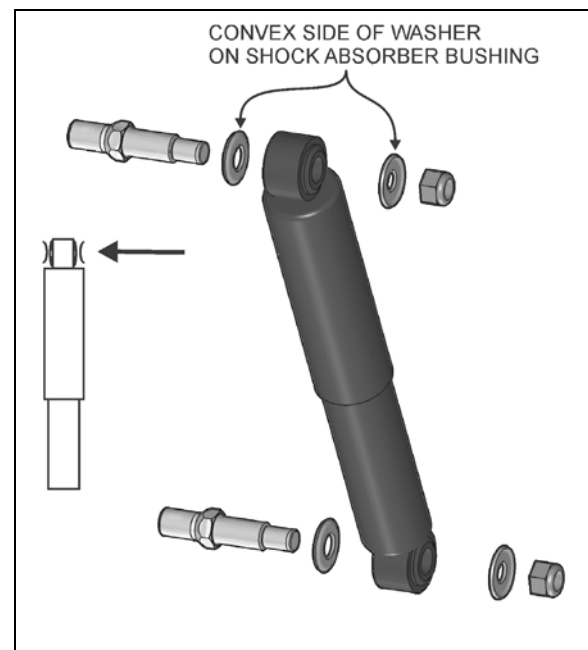

FIGURE 4: SHOCK ABSORBER
1. Remove nuts and washers from shock absorbers on upper and lower mounting pins, taking care to identify the inner and outer washers to ease reinstallation. Refer to Figure 4 for details.